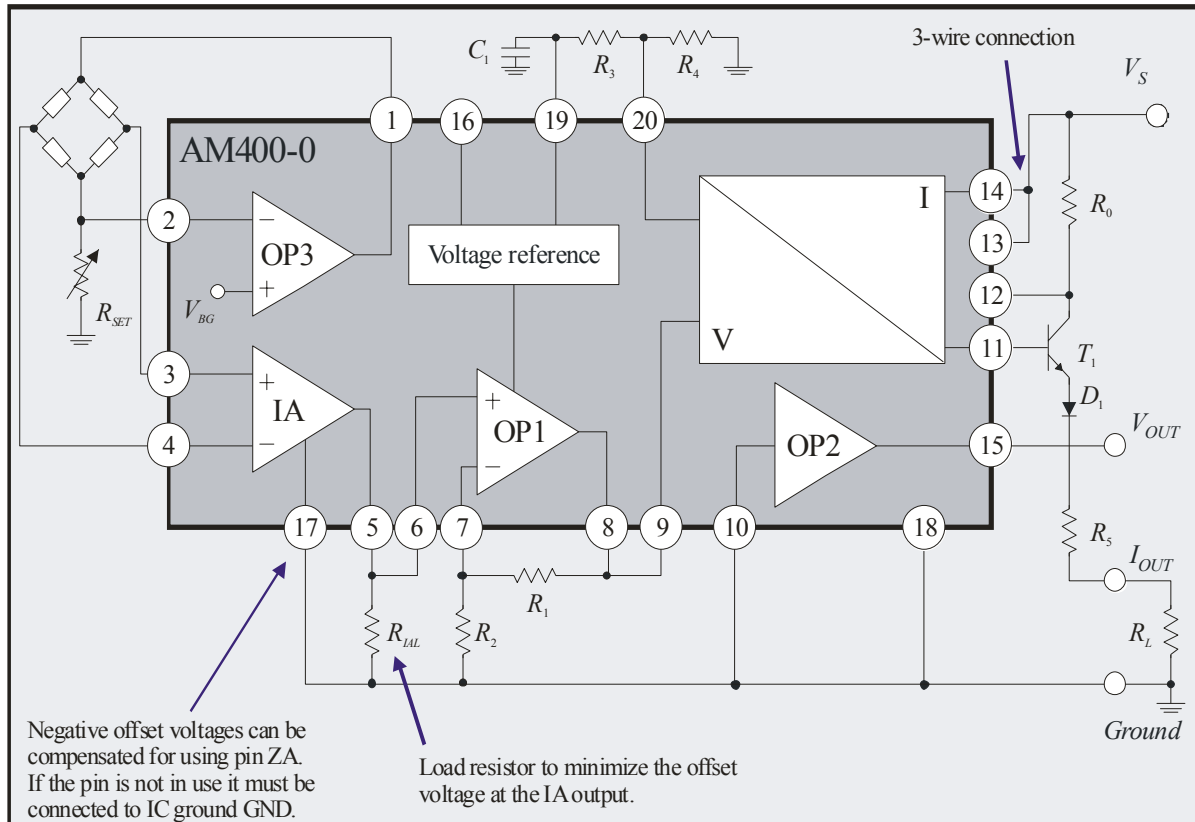
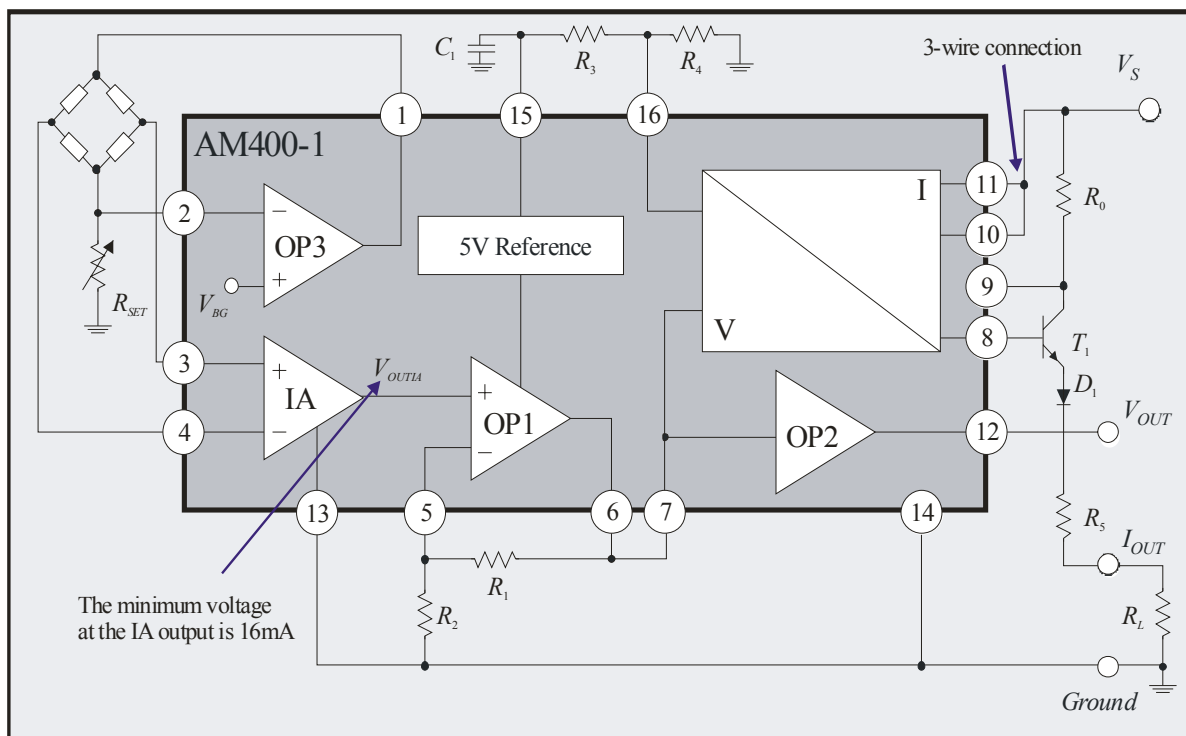
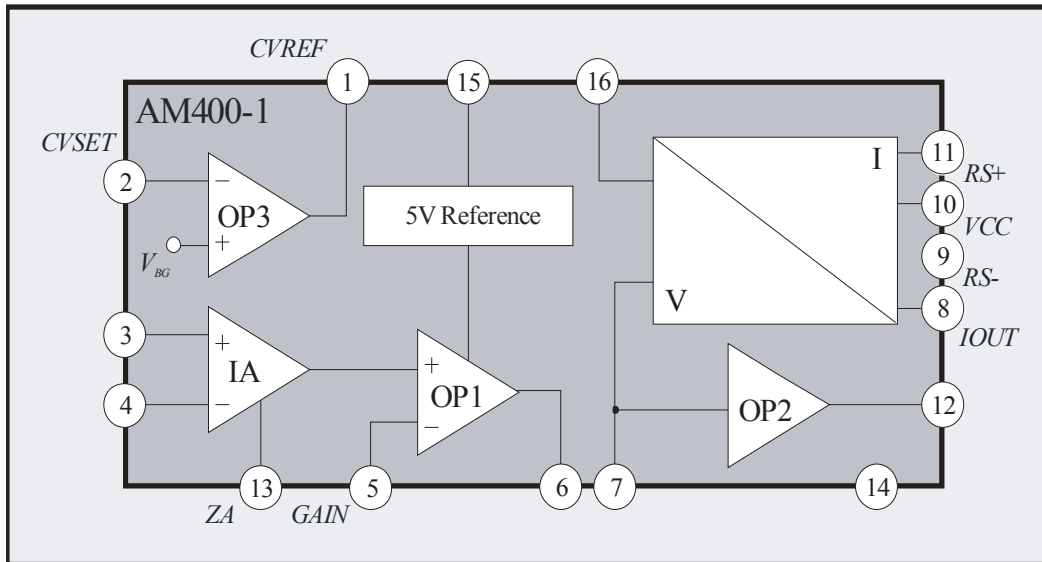

Figure 5: Typical 3-wire application for differential input
Figure 8: Typical application for the 16-pole version of AM400 (3-wire)
Figure 11: Block diagram of AM400 in the 16-pole version
4. The voltage-to-current converter (V/I converter) provides a voltage-controlled current signal at IC output I_{OUT} which activates an external transistor T_1 ; this reduces the power dissipation of the IC and supplies the output current I_{OUT} . The external transistor is protected against reverse polarity by an additional diode D_1 . Via pin SET an offset current I_{SET} can be set at output I_{OUT} (with the help of the internal voltage reference and an external voltage divider as shown in Figure 5, for example). External resistor R_0 permits the output current to be finely adjusted with parallel operation of current and the voltage output. For the output current I_{OUT} boosted by T_1 the following ratio applies:
In 3-wire operation (cf. Figure 5, for example) the ground of the IC (pin *GND*) is connected up to the external mass of the system *Ground*. The system's supply voltage V_S is connected to pin *VCC* and pin *VCC* to pin *RS+*.
When using the IA together with amplifier stage OP1 and the V/I converter for further signal conditioning the offset of the output current should first be compensated for. To this end the two IA inputs must be short-circuited ($V_{IN} = 0$) and connected up to a permitted potential (cf. CMIR in the electrical specifications on page 5). With the short circuit at the input the values of the output current according to Equation 4 and an external voltage divider (e.g. Figure 5) are as follows:
In 3-wire operation (cf. Figure 5, for example) the IC ground (pin *GND*) is connected up to the external ground of the system (*Ground*). The system's supply voltage V_S is connected to pin *VCC* and pin *VCC* to pin *RS+*.
Figure 5 shows a 3-wire application in which the differential output signal of a current-powered measuring bridge is amplified and converted. Operational amplifier OP3 supplies the measuring bridge with current. Bridge supply current I_S can be set using resistor R_{SET} :
Figure 8 gives a 3-wire application which uses the 16-pole version of AM400 (Figure 11). The dimensions of this specific application are no different from those of the 3-wire setup illustrated in Figure 5; no detailed description shall thus be given here. One difference, however, lies in the fact that the minimum voltage at the IA output cannot be reduced by connecting up external load resistor R_{LIA} . Particularly with small differential input signs and the large G_{OP} gain these entail a "correct" value of 0V cannot be obtained at IC output V_{OUT} (cf. the comments on V_{OUTIA} in the electrical specifications). For this reason the 20-pole version of AM400 is preferable for small signals.